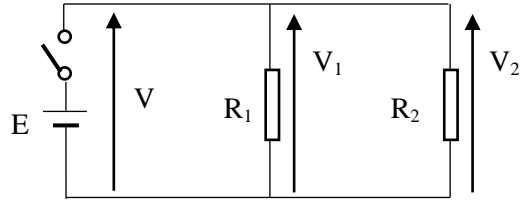

Figure 2.4. Circuit to Verify Kirchhoff's Voltage Law.
- 1- Assemble the circuit as shown in the figure 2.4.